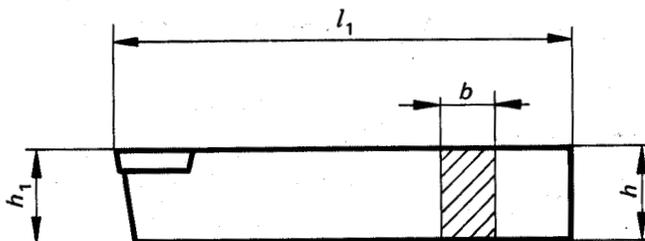

FIGURE 1
4.6.1 Tool holders with rectangular shank cross-section and height of cutting edge h_1 equal to shank height h (figure 1) : shank height h in millimetres.¹⁾
4.7.1 Tool holders with rectangular shank cross-section (figure 1) :